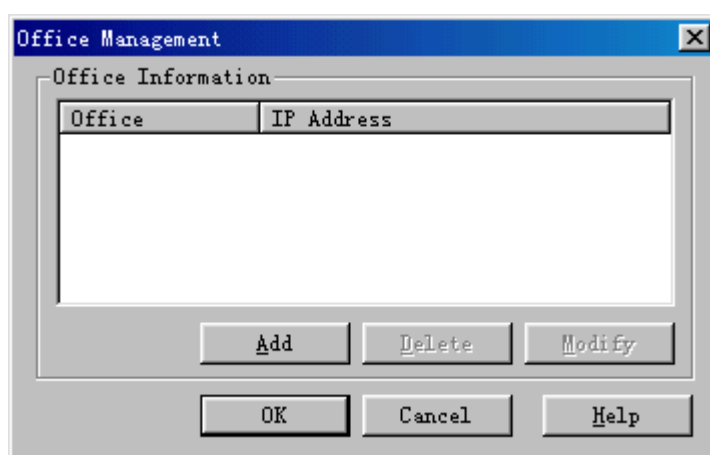

Figure 4-5 Office Management dialog box
If there is no office in the **Office Management** dialog box as shown in Figure 4-5, set the parameters in the dialog box with reference to 4.4 "Managing Office".
- 1) Choose **System -> Office Management**, or click the shortcut icon . The **Office Management** dialog box opens up, as shown in Figure 4-5.